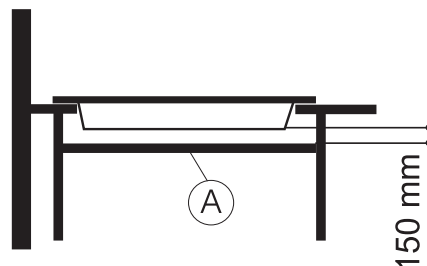

Fig. 6
- In case of mounting a horizontal partition "A" under the hob, leave the distance at least 150mm between the hob and the partition (Fig. 6).